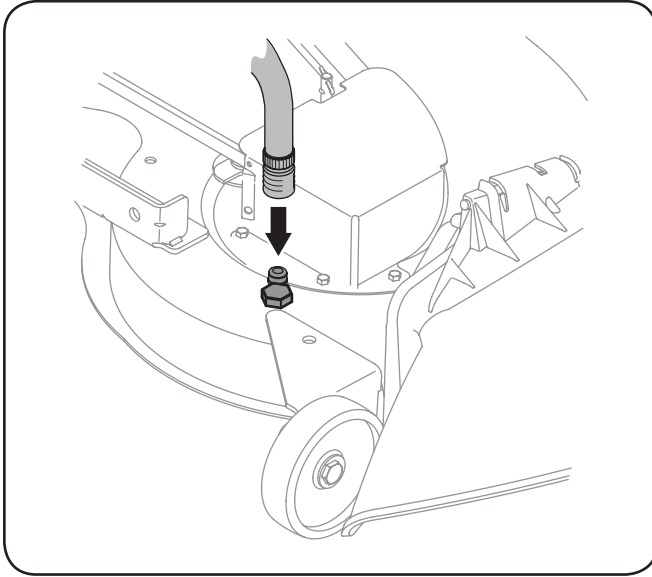

**Figure 6-2**
4. Attach the hose coupler to the water port on your deck's surface. See Fig. 6-2.